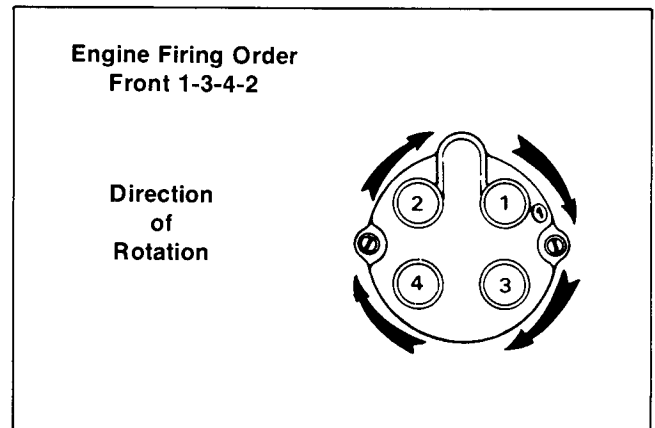

Figure 11-1. Magneto Rotation and Firing Order
Remove the high tension lead at the spark plug, bend a paper clip and insert it into boot, then hold the end about 1/16 in. (1.5 mm) to 1/8 in. (3 mm) away (with insulated pliers to prevent electrical shock) from the cylinder head while cranking the engine. If a sharp snappy spark occurs, the trouble is apparently not in the magneto, although it could still be attributed to a poor spark plug. If no spark or a very weak spark occurs, ignition trouble is indicated. When checking out an ignition system, the components most commonly requiring service or adjustment should be checked first. Refer to Figure 11-1 when reconnecting spark plug wires.
2. Turn magneto gear counterclockwise until white or yellow mark lines up with indicator in timing window. This positions distributor for firing No. 1 spark plug — hold in this position. See Figure 11-1.